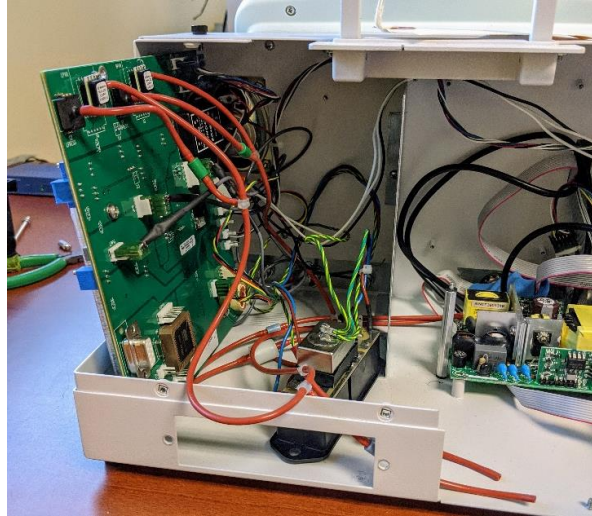

Figure 45
- 17.11. Place the motherboard into the Chassis as shown in Figure 45. The motherboard must be in the Chassis before attaching the Power Entry Module or the Pump and Valve Bracket Assembly (11935-0000-01). Route the Motherboard Power Cable over the Front Inner Divider and through the Plastic Loop Clamps. Route the Temperature Cable to the right of the motherboard. Route the Headphone Jack Cable and Speaker wires to the left of (behind) the motherboard, then over the top near the connectors.